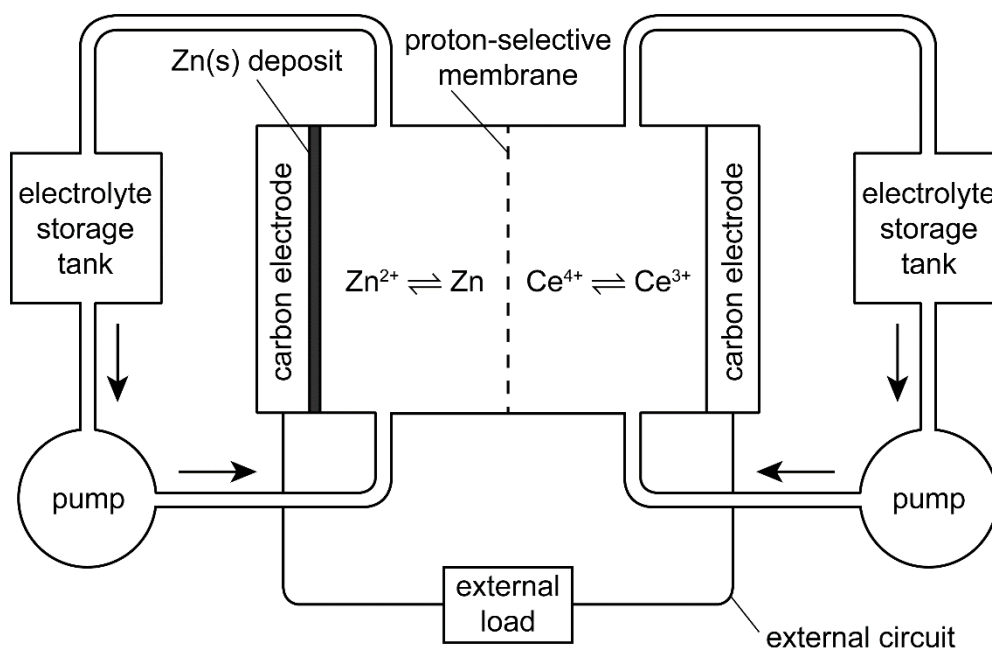

Fig. 2.1
- 2 During the 2000s, researchers looked into creating high-capacity rechargeable batteries for use in energy storage in renewable energy generation. The zinc-cerium battery shown in Fig. 2.1 is one example of such a rechargeable battery involving redox flow.
- (ii) Draw on Fig. 2.1 the direction of electron flow in the external circuit during the discharge process. [1]